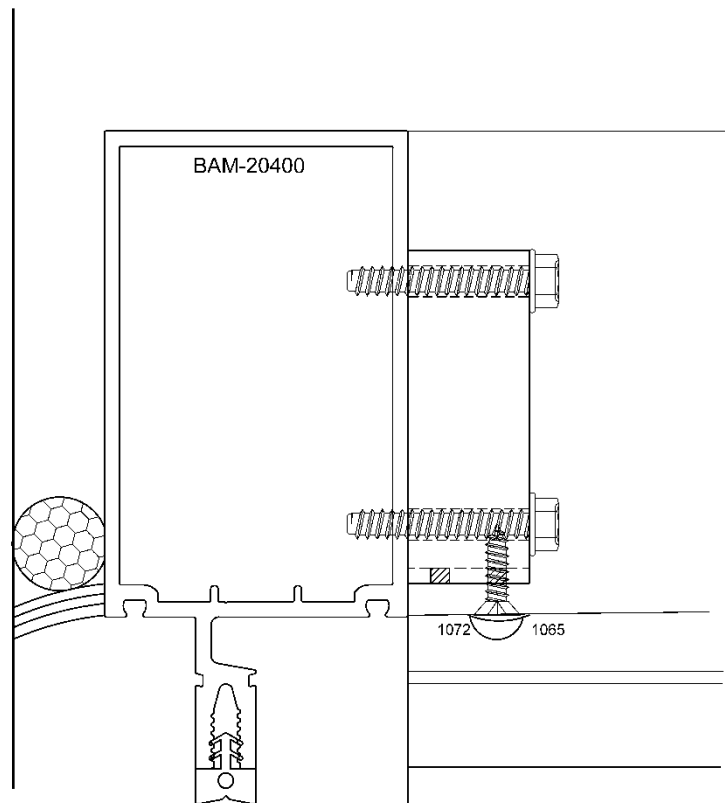

FIGURE M.1
- Install thermal isolator gasket: (FIGURE M.1)